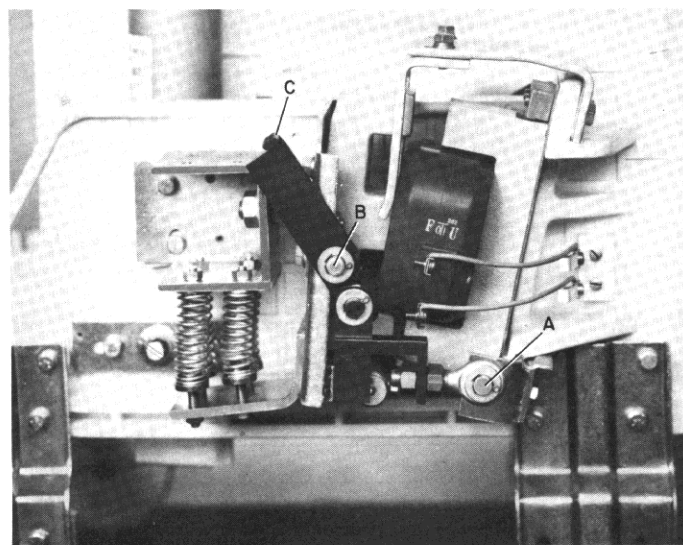

Figure 5. Coil replacement Step 1 and Step 2 — removal of cotter pins, flat washers, and amplifier assembly
Note that new cotter pins should be installed at locations "A" and "B" (Figure 5).
1. Remove the cotter pins and the flat washers at locations "A" and "B" (Figure 5).